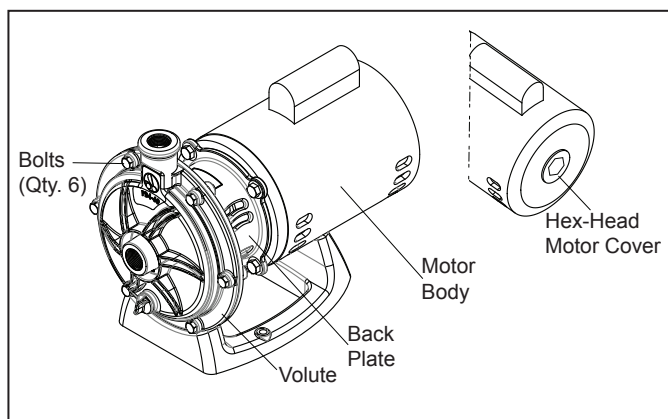

Figure 1. Remove the Volute
3. Using a 1/2" wrench, loosen the six (6) bolts connecting the pump volute to the motor backplate. Remove the bolts and washers and either set aside to use in reassembly or use new ones from the kit. See Figure 1.
2. Remove the motor shaft cover on the back of the motor by twisting the hex-head motor cover with an adjustable wrench. See Figure 1. The motor shaft will be exposed.